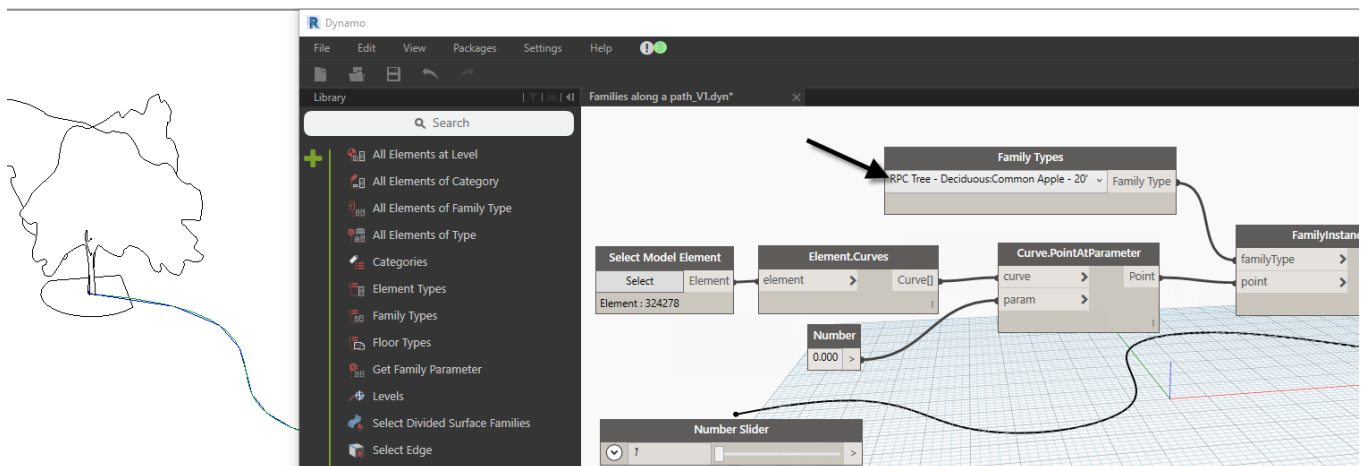

Figure 33
7. From the drop-down on the **Family Types** node, choose an RPC tree family (see Figure 33).